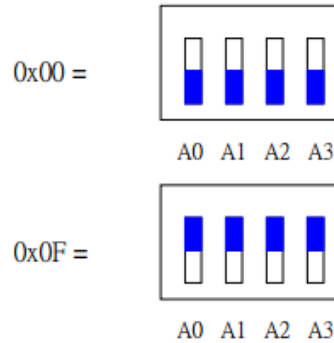

Figure 2 Hardware address selection
The hardware address of PISO-Encoder600(U) board can be set as 0~15 by DIP switch A0~A3 on the PISO-Encoder600(U) board, as shown in Figure 2. The factory hardware address setting is Hex 00. If the default address of this card is used by other device, user can change the setting to various base addresses. The addressing of PCI bus is defined in Table 1. According to the hardware address setting, programmer should call function ENC6_REGISTRATION(cardNo, address) to confirm with the hardware setting in the beginning of the program. The more detailed description for function of ENC6_REGISTRATION() will be presented in chapter 3.